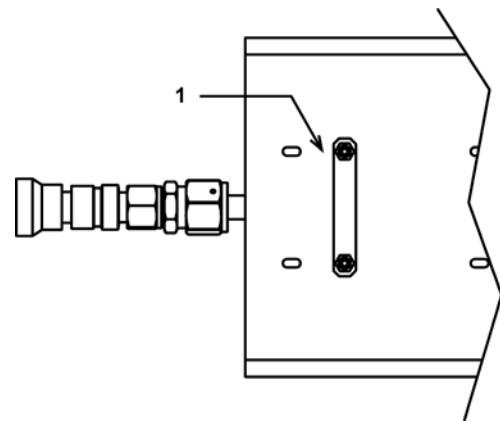

Figure 2. molstic-S Nut Plate
- ⑧ Place the flat side of the 60 mm nut plate (Fig 2, 1) under the molstic-S platform. Align it with the holes in the platform and the regulator bracket. Hold it in place.
- ⑨ Thread the two M4 socket head cap screws and M4 flat washers through the regulator bracket and tighten them securely into the nut plate.